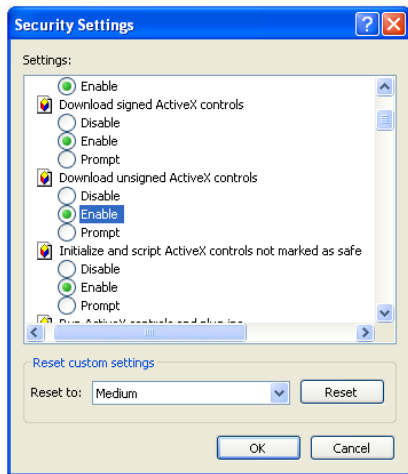

Fig 4-2
③ Enable all the sub options under “ActiveX controls and plug-ins”. Refer to Fig 4-2.